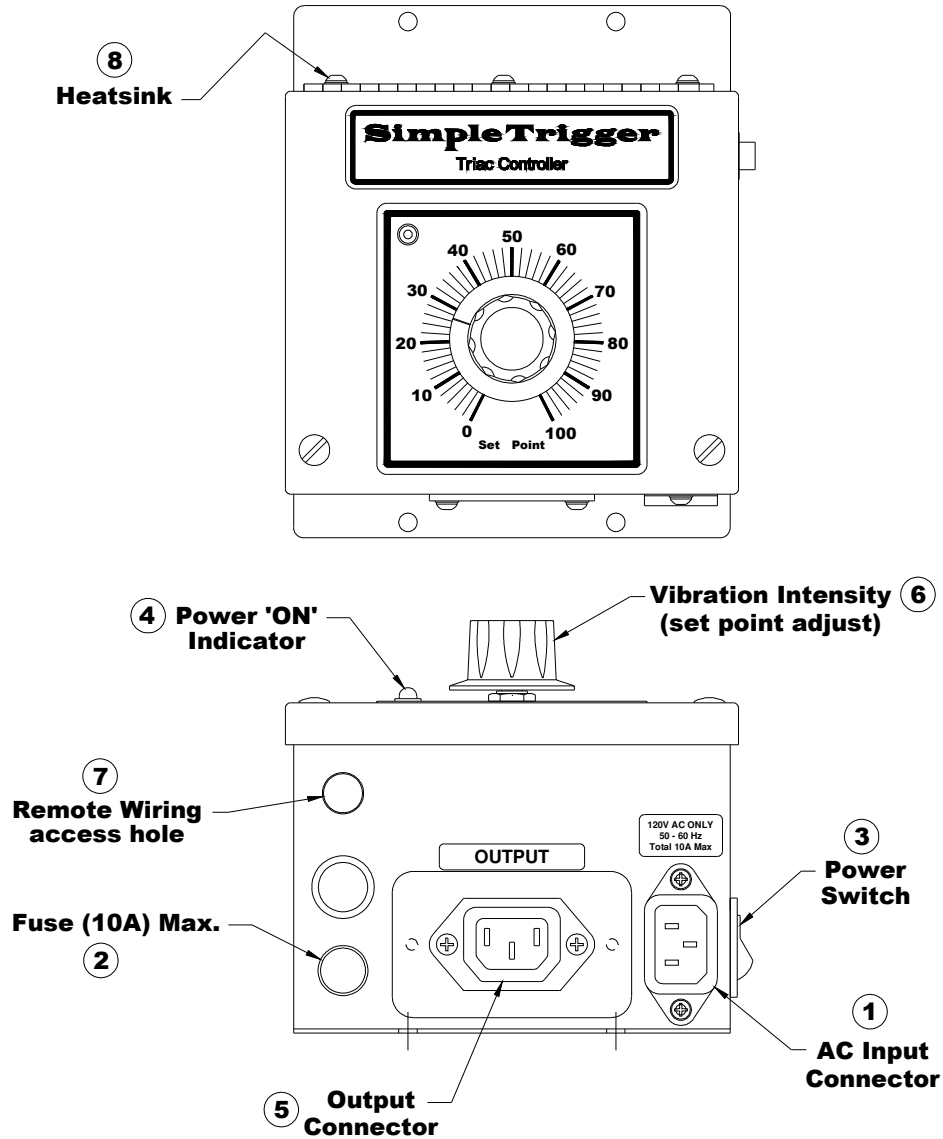

Figure 1. SimpleTrigger Digital Power-Tracking Controller
1. **AC Input Connector** - (see Figure 1) A quick disconnect cord plugs into a standard 110 or 220 Volt AC outlet to power the controller. The controller requires between 95-140 Volts AC, 50/60 Hertz for the 110 volt unit and 190–250 Volts AC, 50/60 Hertz for the 220 volt unit.
2. **Fuse** – (see Figure 1) The Input fuse should be sized to accommodate the feeder requirements, but not to exceed 10 amps maximum.
3. **Power Switch** – (see Figure 1) Upon power up there is a 0.2-second pause for internal calibration that may be followed by a soft start delay of 0.8 seconds, depending on **DIP Switch** settings.
4. **Power ‘ON’ Indicator** – (see Figure 1) Upon power on with the power switch, the power ‘ON’ lite will illuminate indicating that power is on providing the input fuse is good.
5. **Feeder Output Connector** – (see Figure 1) Supplies the output to drive the feeder coils. This is a variable power output. (connectors are different for 110 or 220 version)
6. **Vibration Intensity (set point adjust)** – (see Figure 1) Selects the desired amplitude of vibration intensity.
7. **Remote Wiring access hole** – (see Figure 1) The unit is factory delivered with this hole covered by a metal snap-in cap. A cord grip may be installed for securing external wiring at this location. This is very useful when utilizing features such as interlocking, coupling of the Universal Input to a photocell or PLC output, etc.
8. **Heatsink** – (see Figure 1) Dissipates the heat generated by the electronics. It is specified for a continuous 15 Amp RMS bowl current in an ambient temperature environment of 45° Celsius.